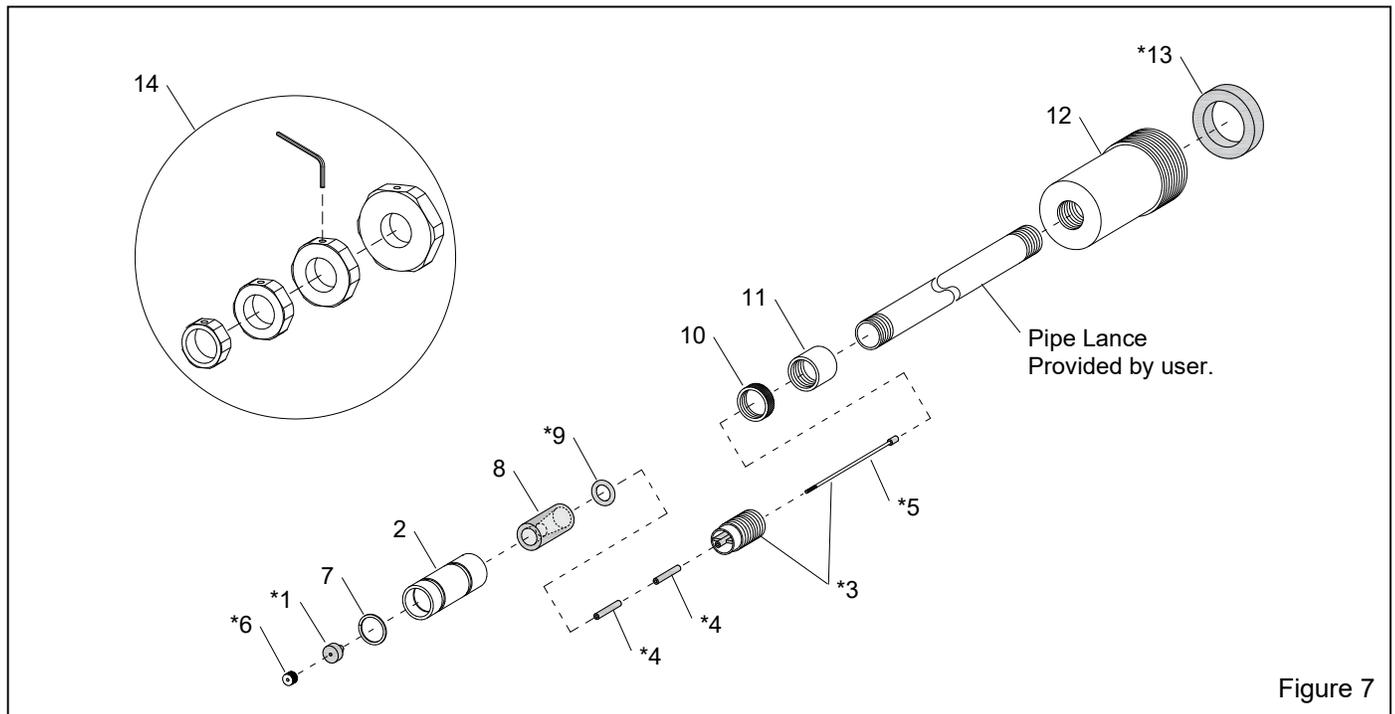

Figure 7
Hollo-Blast Jr. with reducer (item 12 in Figure 7) ..	01098
6.2 Replacement Parts – Figure 7